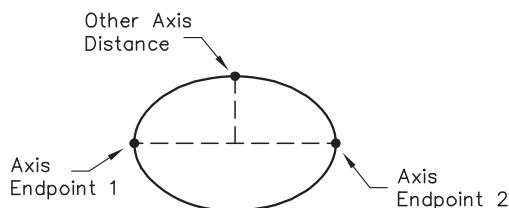

Fig. 5-8
2. Pick a point for an endpoint of the first axis, as shown in Fig. 5-8.
2. Pick three points similar to those shown in Fig. 5-8.